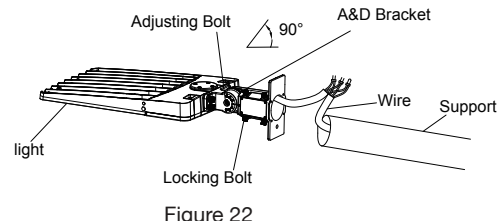

Figure 22
Step 2: Loosen the four bolts on A&D bracket, connect the wires correctly, and pull the wires into the pole (Figure 22)
Step 3: Place the bracket into the pole and lock the four bolts (Figure 22)
Notice: Adjustable angle range is 0-90°(Figure 22)